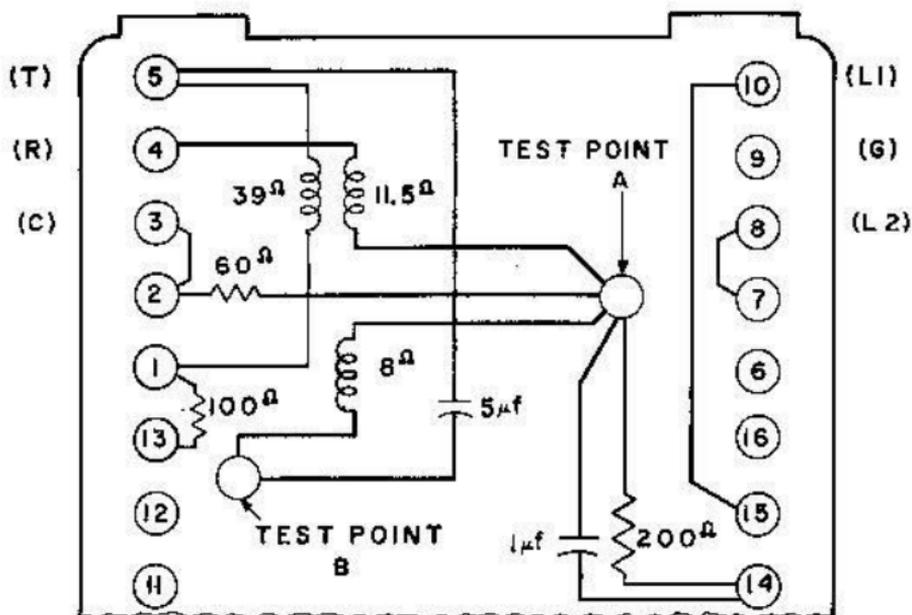

Figure 23. Transmission-unit D-38362-A internal connections.
15.2 **Tinkling of straight-line ringers.** When two or more telephones using straight-line ringers are connected to the same line, occasionally a ringer tinkles when another station dials, due to charge and discharge of the ringer capacitor during dial interruptions. To correct this, remove the telephone housing (§14) and reverse the connections of the tinkling ringer at the transmission unit (figure 23). The ringer bias spring then should prevent tinkling.
S.A.T.T. System A and Superimposed Ringing. The transmission-unit wiring diagram (figure 23) is for information for continuity tests, ohmmeter measurements, etc. During manufacture, the transmission-unit is sealed; do not attempt repairs in the field. If it becomes damaged, replace it.
Remove the housing (§18). At the transmission-unit (figure 23 or 24) disconnect the 3 line cord leads from terminals 8-L2, 9-G, and 10-L. Loosen the cord-clamp screw (at the right of the cord leaving the telephone), and unhook the clamp-lug from the hole in the baseplate (at the right of the ringer armature, and over the cord). Pull out the old cord.